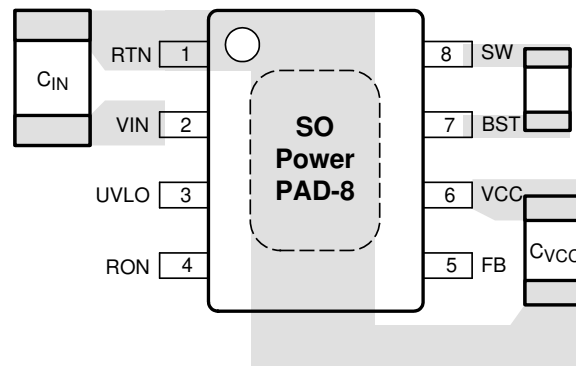

图 10-1. Placement of Bypass Capacitors
- C_{IN} : The loop consisting of input capacitor (C_{IN}), V_{IN} pin, and RTN pin carries switching currents. Therefore, the input capacitor should be placed close to the IC, directly across V_{IN} and RTN pins and the connections to these two pins should be direct to minimize the loop area. In general it is not possible to accommodate all of input capacitance near the IC. A good practice is to use a 0.1- μ F or 0.47- μ F capacitor directly across the V_{IN} and RTN pins close to the IC, and the remaining bulk capacitor as close as possible (see 图 10-1).
- C_{VCC} and C_{BST} : The V_{CC} and bootstrap (BST) bypass capacitors supply switching currents to the high and low side gate drivers. These two capacitors should also be placed as close to the IC as possible, and the connecting trace length and loop area should be minimized (see 图 10-1).